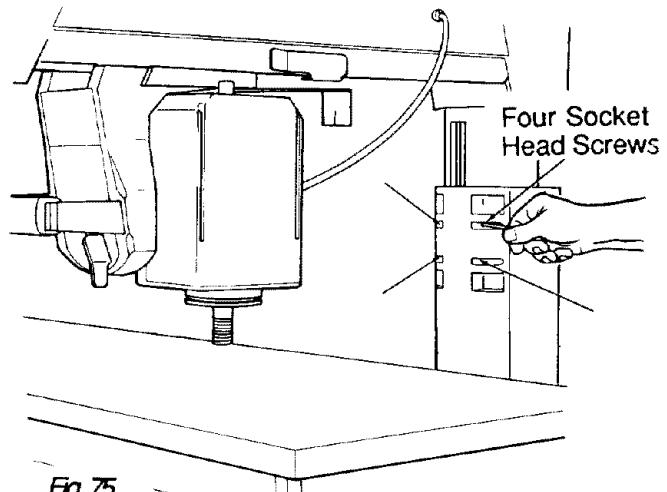

Fig. 75
11. Use 3/16 hex "L" wrench to loosen the four screws in the front of the *column support* slightly, if you have not already done so in the Adjusting Elevation section. (Figure 75)